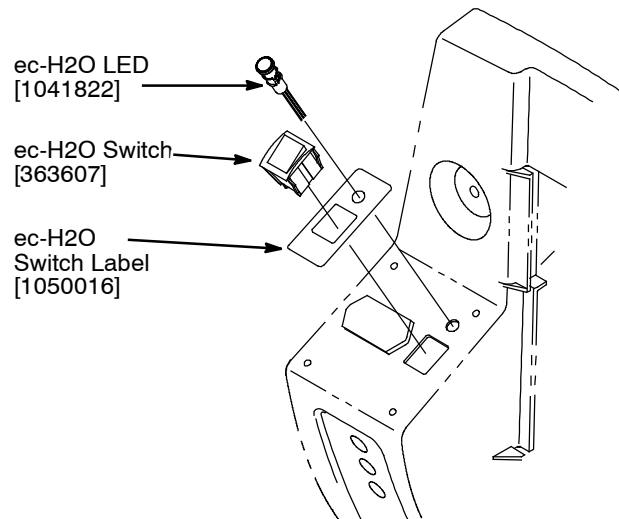

Fig. 9
1. Remove the two plugs from control console and install the ec-H2O control console components as shown (Figure 9).